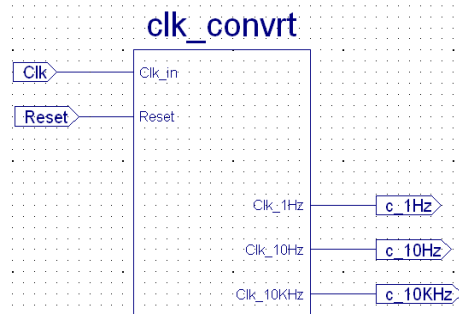

Figure 8
3. This block (clk_convrt) down converts the 50 MHz clock to three different clock signals (1 Hz, 10 HZ, and 10 KHz) (Figure 8).
5. Create a new schematic file similar to Figure 8.